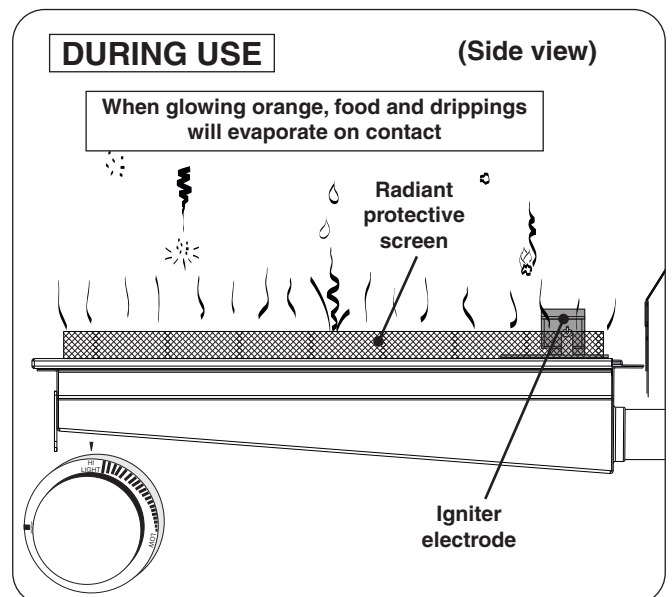

Fig. 31-3 Infrared burner - DURING USE
- **DO NOT place food on the cooking grid until the infrared burner glows orange (Fig. 31-3).** Drippings are heated and evaporate instead of sticking to and impairing burner function.